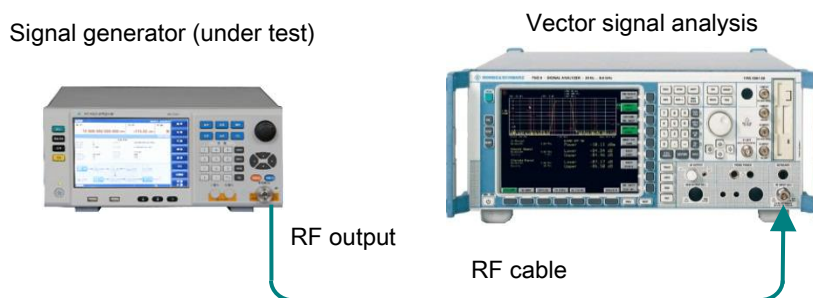

Fig. 8.8 Test on EVM and original offset
- 1) Connect equipment as shown in Figure 8.8, start up the instrument, and warm it up for at least 30 min.